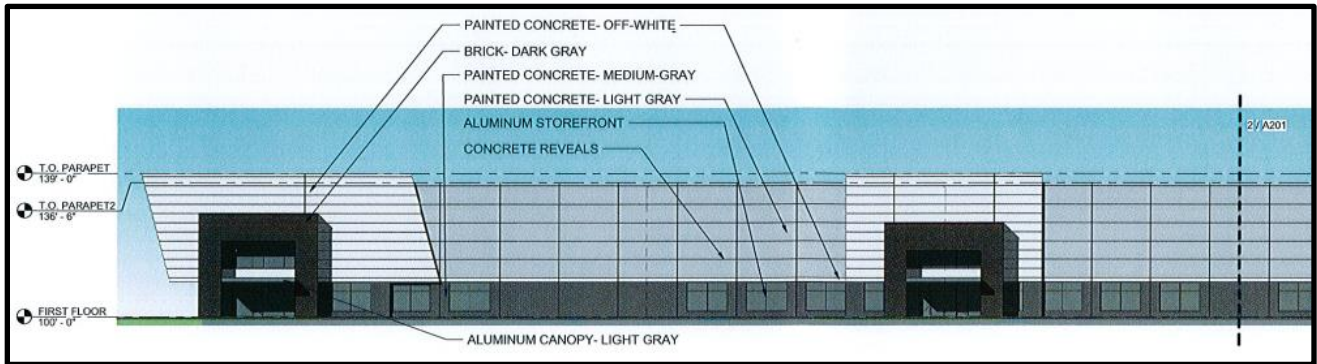

Figure 3: North Elevation facing I-64 – East Side
The structure will be 31'-7" in height (top of gutter), with accent features reaching 39 feet in some areas along the north elevation and lesser parapets elsewhere reaching 36'-6" in height. The structure will contain office space, a showroom for retail purposes and a warehouse with Figures 3 and 4 on the following page detailing the north elevation of the proposed structure. Accent features along the north elevation accentuate the solid shape and color scheme of the long façade. The south elevation is characterized by its contiguous flat surfaces and mitigated by six (6) loading docks and employee entrances on the back of the building.